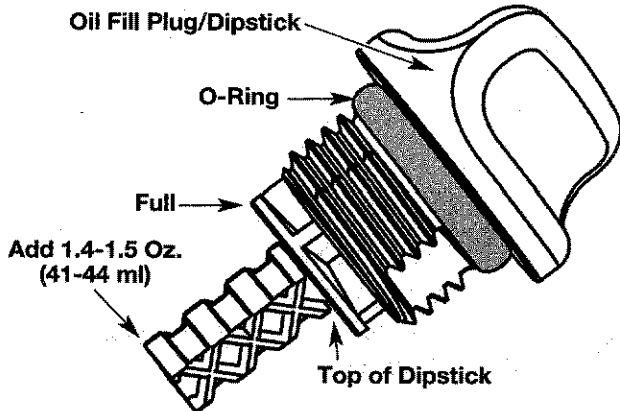
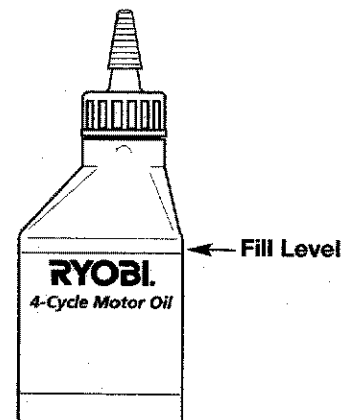

Fig. 39
Fig. 42
5. Remove the oil fill plug/dipstick and check oil level. Oil should be up to the top of the dipstick (Fig. 39).
**NOTE:** Use the bottle and spout saved from initial use to measure the correct amount. 100 ml (3.4 oz) is approximately to the top of the label on the bottle (Fig. 42). Check the level with the dipstick. If the level is low, add a small amount of oil and recheck (Fig. 39). Do not overfill.